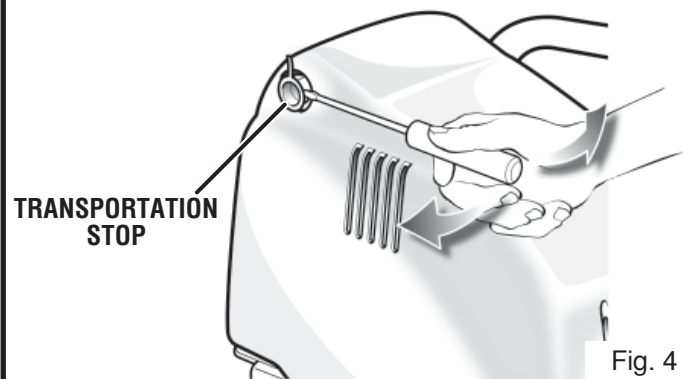

Fig. 4
See Figures 4 - 5 - 6.
- Remove the transportation stop with a screwdriver (or by means of other similar sharp tool) (Fig. 4 - 5).